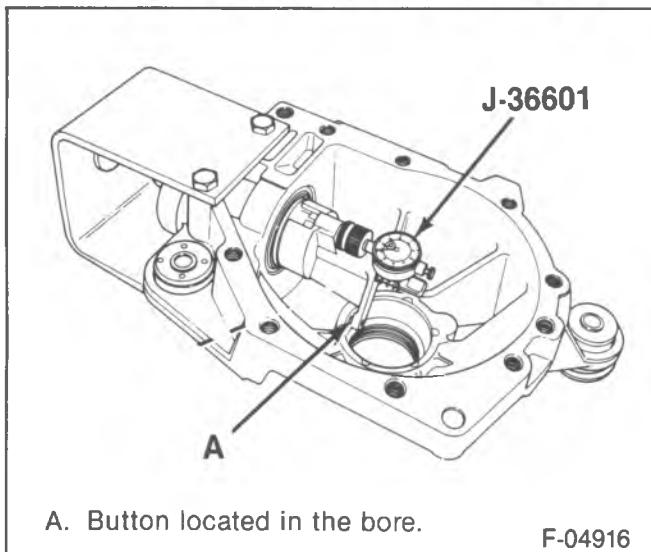

Figure 99—Measuring for the Pinion Shim Size
- Hold the pinion bearings in position and install J-36601 (figure 99).
- Set the button of J-33838 on the differential bearing bore (figure 99).
- After the zero setting is obtained and verified, move the tool button out of the differential side bearing bore (figure 99).